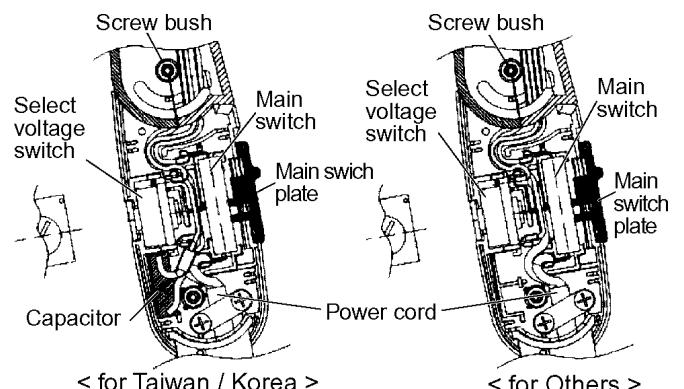

Figure 7
Make sure of aligning all lead wires and right hand side of screw bush as shown in Figure 7.
8. Install main switch plate, main switch, lead wires into housing B as shown in Figure 7.
9. Set power cord and bushing, then fasten 2 screws to power cord retainer as shown in Figure 7.
10. Install select voltage switch into handle B as shown in Figure 7.
11. Install capacitor into handle B as shown in Figure 7.